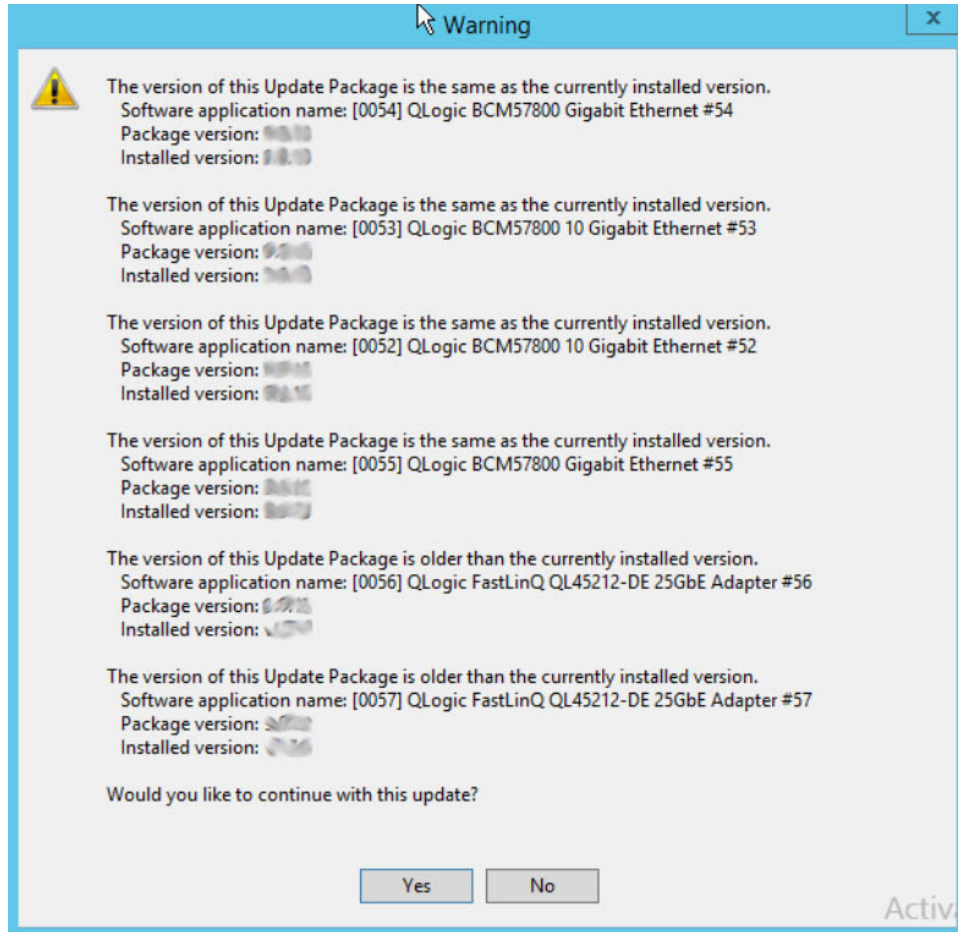

Figure 4-2. Dell Update Package: Continue Update
3. Follow the on-screen instructions. In the Warning dialog box, click **Yes** to continue the installation, as shown in Figure 4-2.